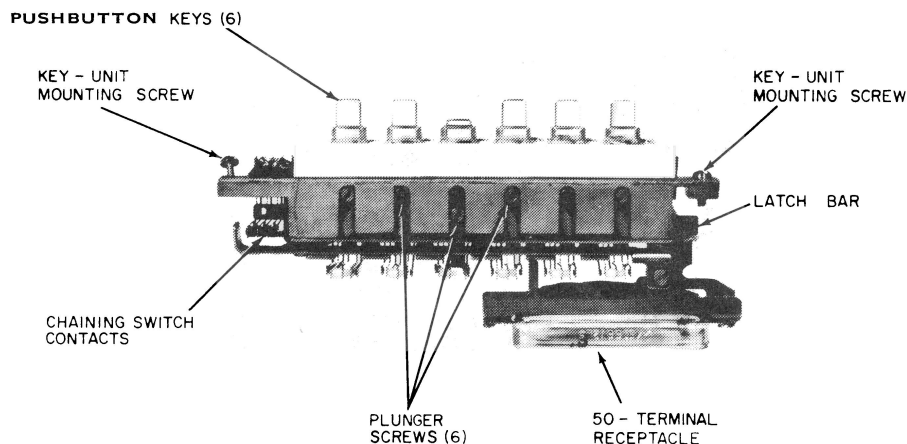
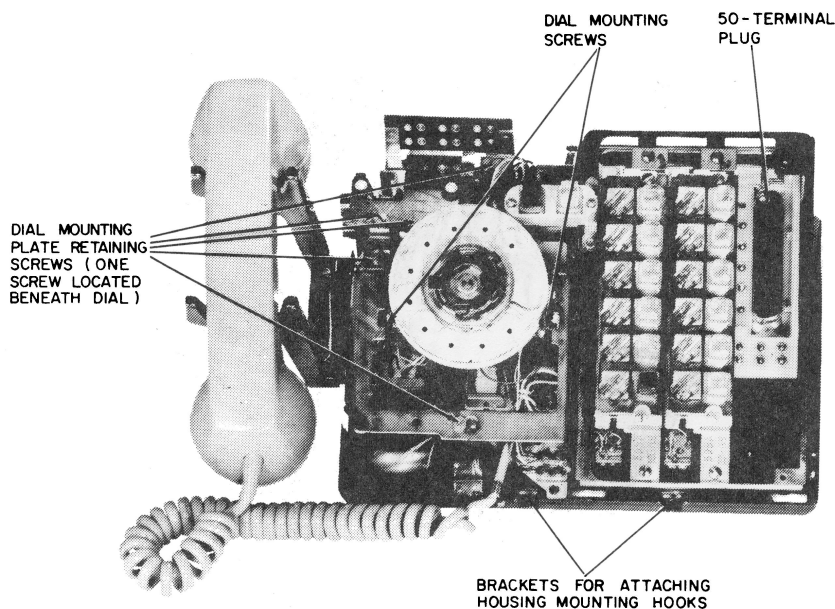

Figure 4. 598-A Keystrip Unit Showing Six Line Pickup Keys.
Figure 5. Telephone Set with One Keystrip Unit Removed.
2.04 Each keystrip unit is equipped with a 50-terminal receptacle (Figure 4). All connections to the keystrip unit are made to this receptacle. These receptacles connect directly to 50-terminal plugs, one for each key (Figure 5). Not all terminals on each plug are used.